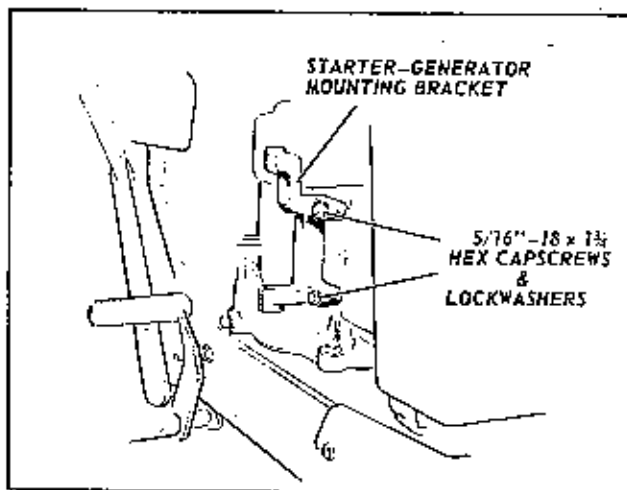
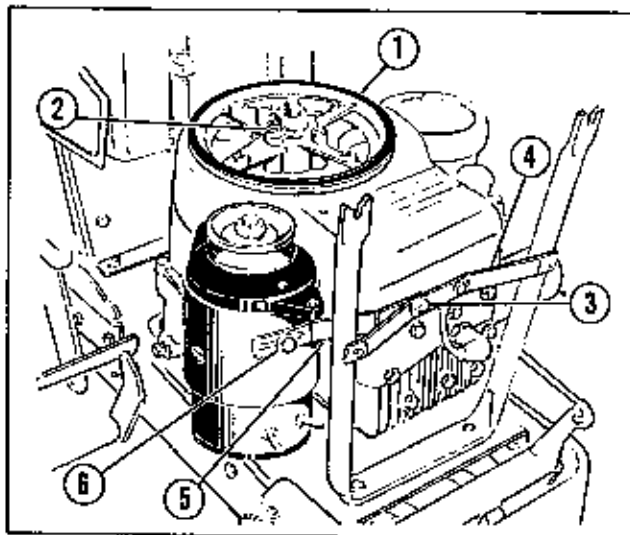
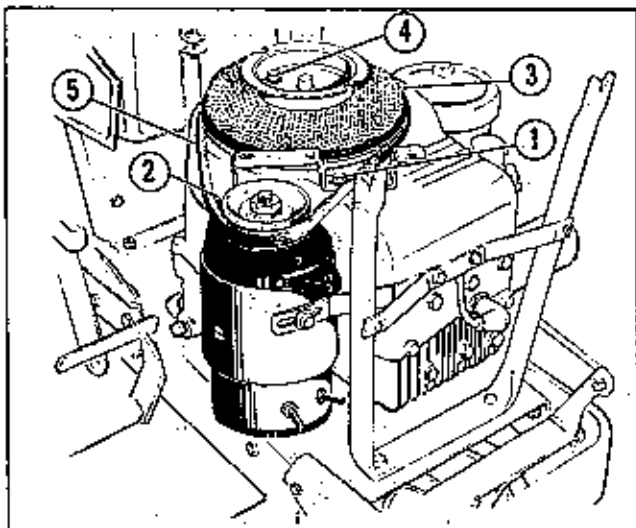

Figure 3
Figure 4
Figure 5
4. Bolt the large flywheel pulley #1, Fig. 4, to the hub of the flywheel, using two 5/16"-18 x 3/4" long hex cap screws #2, Fig. 4, and 5/16" lockwashers. Remove the hex cap screw #3, Fig. 4, from the front support bracket #4, Fig. 4. Install the generator support and belt tension bracket #5, Fig. 4, as shown, with the plain round hole in place behind the front support bracket #4, Fig. 4, and loosely secure with
the previously removed cap screw. Attach the starter-generator mounting bracket as shown in Fig. 3, by means of two 5/16"-18 x 1-3/4" long hex cap screws and 5/16" lockwashers. Tighten securely and mount the starter-generator to the mounting bracket with two 5/16"-18 x 3/4" long hex cap screws and 5/16" lockwashers and 5/16"-18 hex nuts. Attach the slotted end of the generator support and belt tension bracket to the starter generator at point #6, Fig. 4, with one 5/16"-18 x 3/4" long hex cap screw, 5/16" plain washer, and 5/16" lockwasher. Leave this cap screw only finger-tight to allow for later belt tension adjustment.
5. Attach the voltage regulator support bracket to the engine shroud through the slotted hole in the bracket, with one 1/4"-20 x 5/8" long hex cap screw, 1/4" plain washer, and 1/4" lockwasher as shown at #1, Fig. 5. Attach the other end of the bracket to the starter-generator by means of the upper starter generator mounting bolt. See #2, Fig. 5. Place the screen & pulley assembly, #3, Fig. 5, over the flywheel pulley with the mounting holes aligned and secure with two 5/16"-18 x 3/4" long hex cap screws, #4, Fig. 5, and 5/16" lockwashers. Tighten securely. Install the starter generator drive belt #5, Fig. 5, over the generator pulley and over the flywheel pulley. Tighten the starter-generator support bracket #3, Fig. 4, and pull the starter-generator out to apply tension on the drive belt. Tighten screw #6, Fig. 4, to hold proper belt tension.